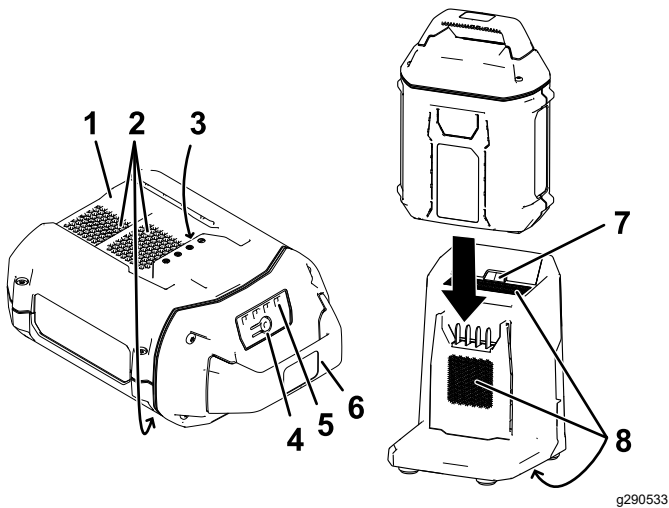

Figure 15
- 2. Line up the cavity in the battery pack (Figure 15) with the tongue on the charger.
- 3. Slide the battery pack into the charger until it is fully seated (Figure 15).